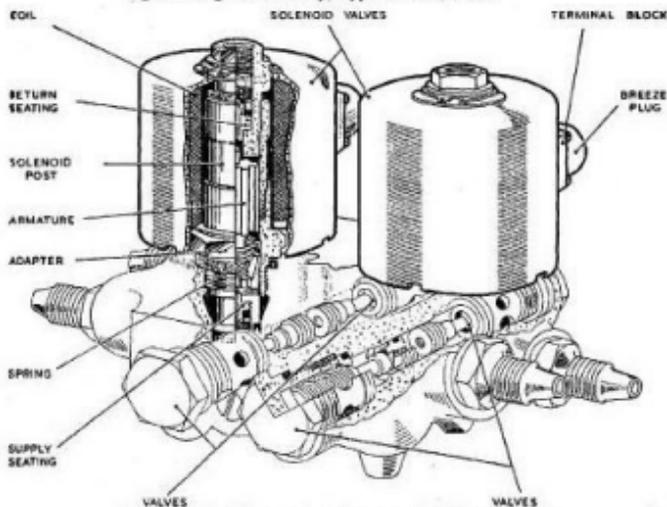

Fig. 2. Solenoid control valve assembly, Type C2270Y
4. This assembly (fig. 2) is incorporated in the bomb door control units, Types C2261Y and C6860Y, and the undercarriage control units, Types C536Y and C6859Y. These units differ in that the former in each instance has a sealing ring of greater thickness incorporated, and a moulding ring fitted in place of the sealing ring and split washer at the base of the solenoid posts. The electrical control is provided by two solenoid control valve assemblies, indicated with heavy lines in fig. 2. That shown in section on the left of this illustration is the Type FAC/A/360, which differs from that on the right, the Type FAC/A/350, only in that the former is fitted with a 4-pole and the latter with a 2-pole Breeze plug.
**17.** To remove the solenoid valve assembly, Type FAC/A/350 or Type FAC/A/360 unscrew the hex/hd. adapter annotated in fig. 2. The solenoid post can then be unscrewed by turning the adapter at the other end of the coil.